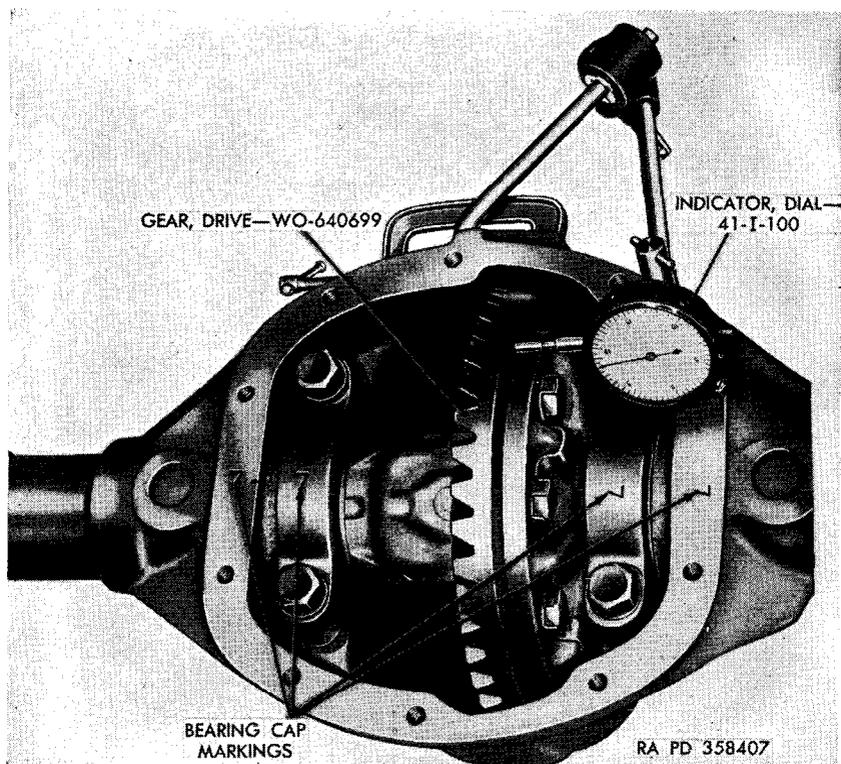

Figure 84. Checking drive gear run-out using dial indicator 41-I-100.
b. *Check Drive Gear Run-Out.* Install a dial indicator 41-I-100 (fig. 84) on the differential case carrier housing so that the indicator contact point is resting on the flat side of the drive gear. As the drive gear is turned by hand, check reading of the dial indicator. A total indicator reading in excess of 0.003 inch indicates a warped or nicked differential case or an improperly installed drive gear. In either case, remove the differential case (par. 92) from the carrier housing and